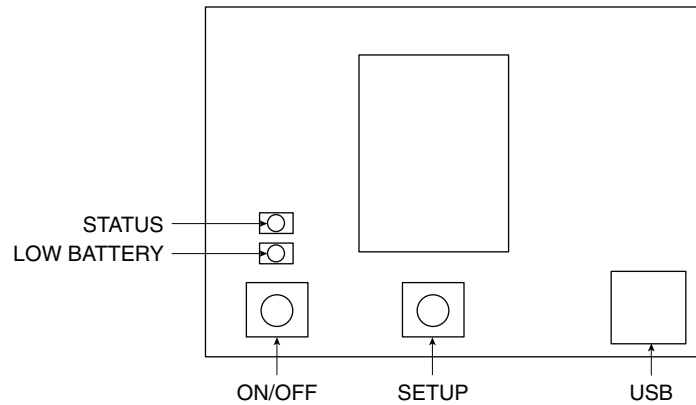

Figure 5-2. Main Transmitter Board
5.1.4 Indicator Lights (See Figure 5-2)
The green indicator light marked "status" (Figure 5-2) will blink every time the unit sends data to the receiving unit. Example; If you selected a 5 sec sample rate the green TX led will blink one time every 5 seconds.
The red indicator light marked "LOW BATTERY" (Figure 5-2) will turn on when the battery reaches a level at or below the power level required for normal operation. When this indicator turns on it's time to install a fresh battery in your unit. For procedures on how to change your battery see Section 5.3.